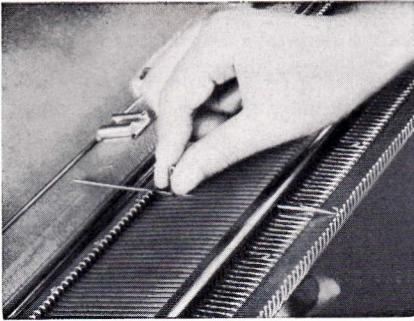

Fig. 74
- e. Grasp the shank end by finger and draw out it to the backward direction. (See Fig. 74)